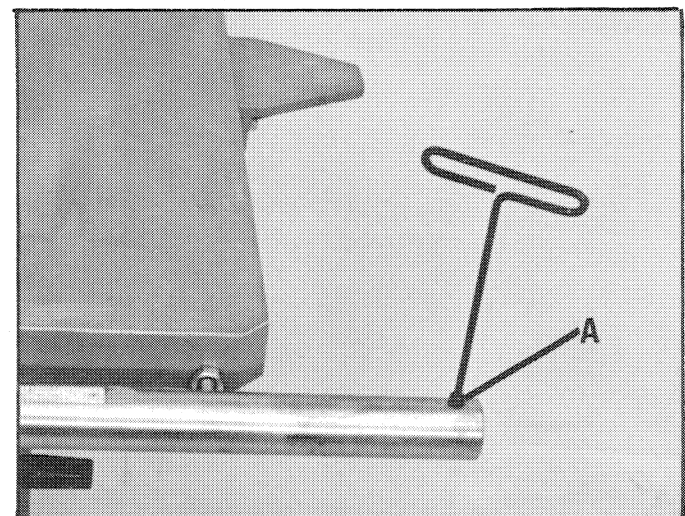

Fig. 15
1. Remove screw (A) Fig. 15, from end of guide rail.